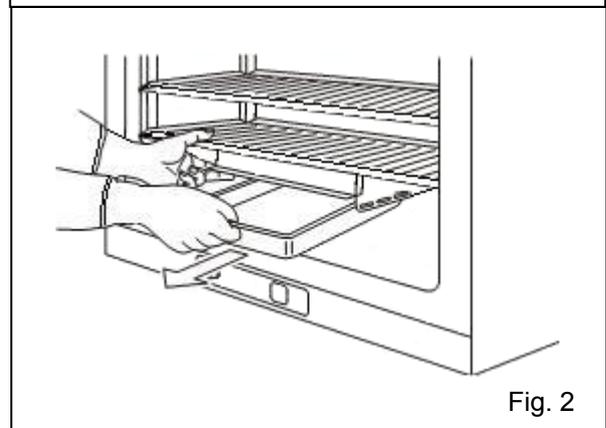

Fig. 2
Be careful to keep the diluted detergent or water out of the temperature sensor, the CO₂ gas injection hole, the inner sample air access port, the fan motor shaft bearing, and the inner sample air outlet (Fig.2 ←). Also, do not wash the temperature sensor, the CO₂ sensor, the water level sensor and the UV lamp using detergent. Doing so may cause failure. (Fig.2)
3. Lift the humidifying pan cover off from the pins at the rear side. (Fig. 2)
3. To install the rear duct, confirm 4 pins are securely installed in the 4 holes of rear duct. (Fig. 2)
2. Pull out the humidifying pan toward you. (Fig. 2)